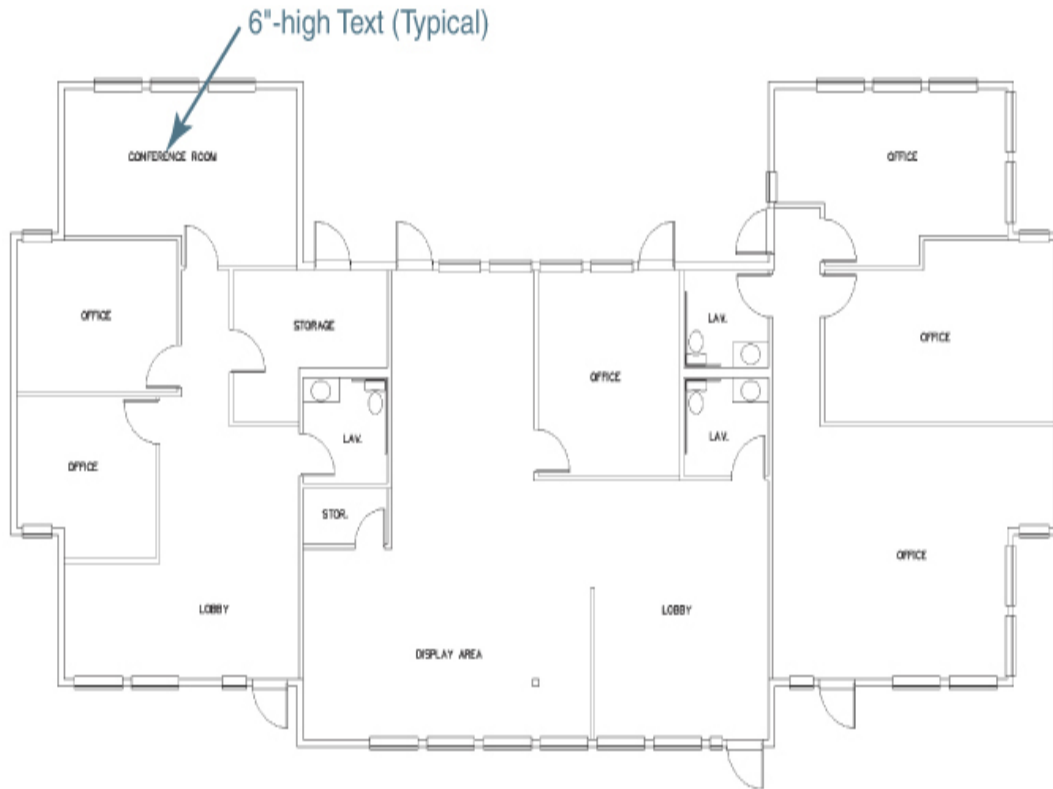

Figure 14-37
- 11** Center the 1/4" = 1'-0" text in each room by using the upper-left grip to move each piece of text individually of its 1/8" = 1'-0" scale representation as shown in Figure 14-37.